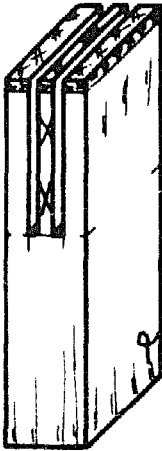

Fig. 9
- Rip the sides of the socket down to the required depth, sawing on the waste side of the lines (Fig. 9). Saw in steps (see Tee-halved joint, Cutting the pin, page 114).